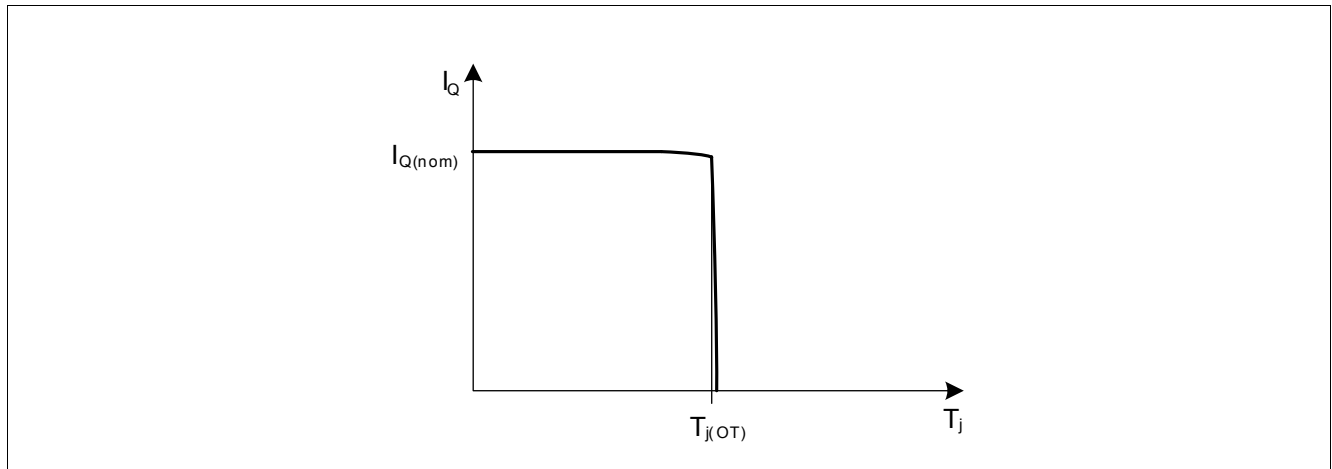

Figure 4 Over Temperature Protection
- Over temperature protection realized by over temperature switch off (see Figure 4)